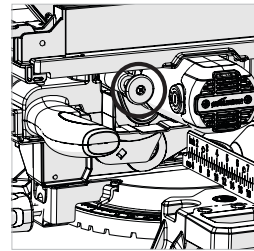

Fig. 18
- Retract motor latching pin and rotate motor upwards. **(Fig. 18)**